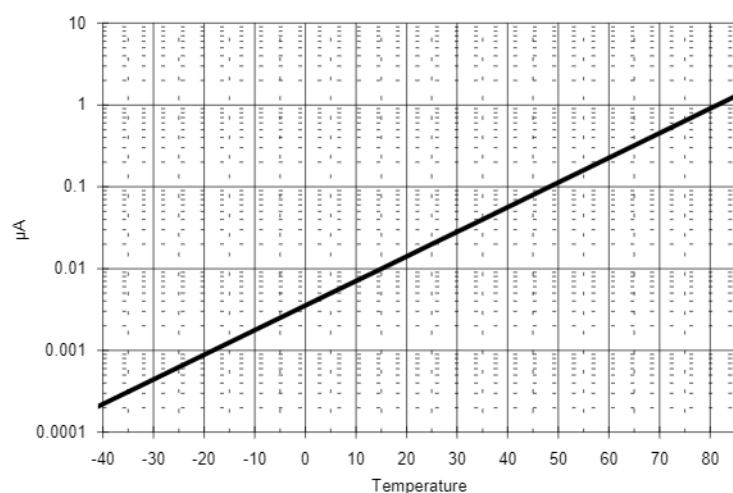

Figure 11 : Typical 'Zero Power'  $I_{DD}$  vs. Temperature ( $V_{DD} = 5.0V$ )
2. RD, MODE, RXCK inputs at  $V_{SS}$ , ZP input at  $V_{DD}$ . See also Figure 11.